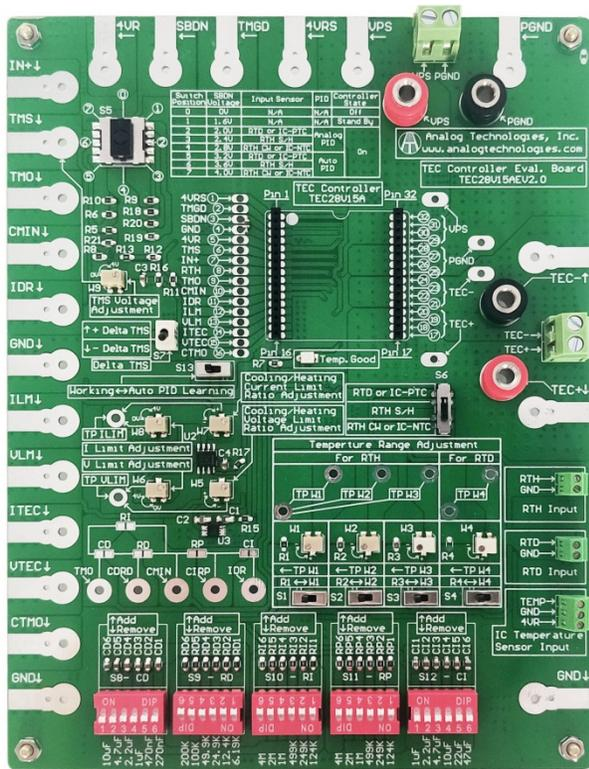
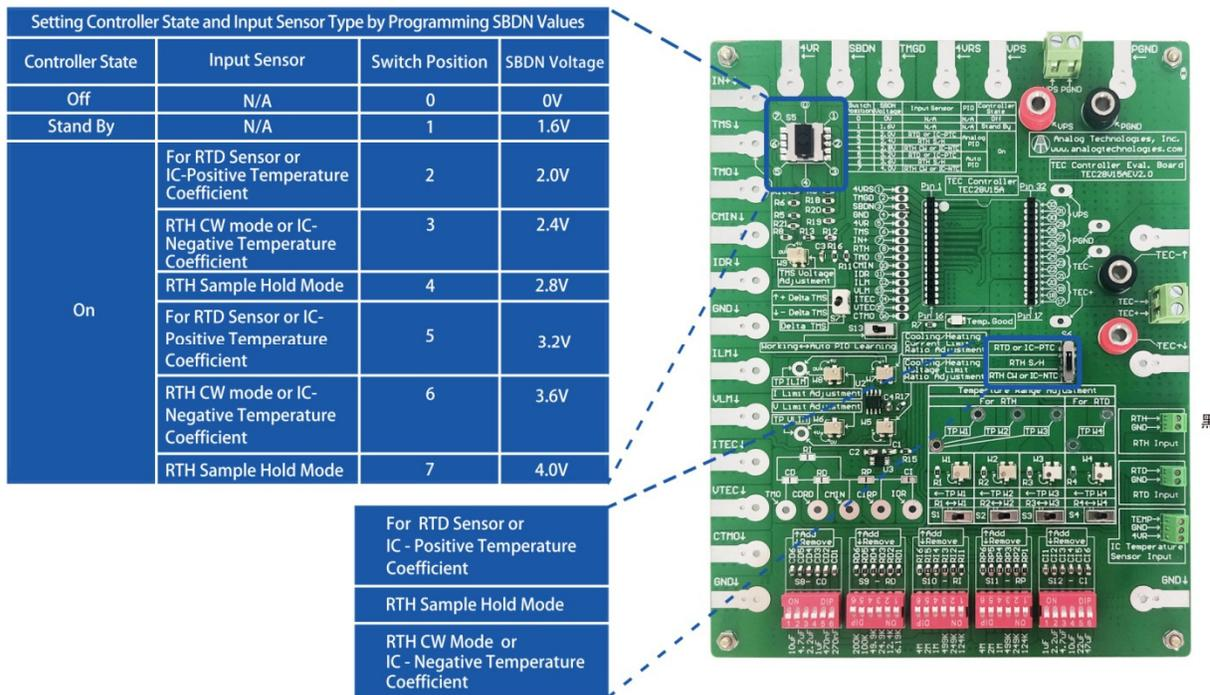
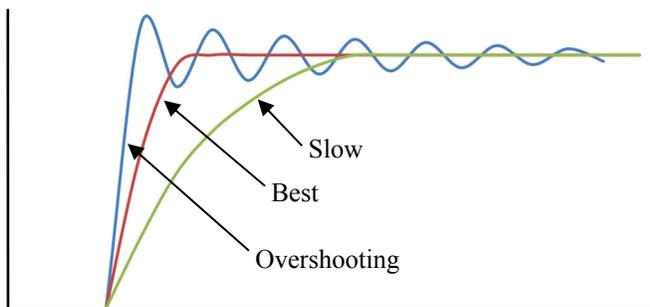
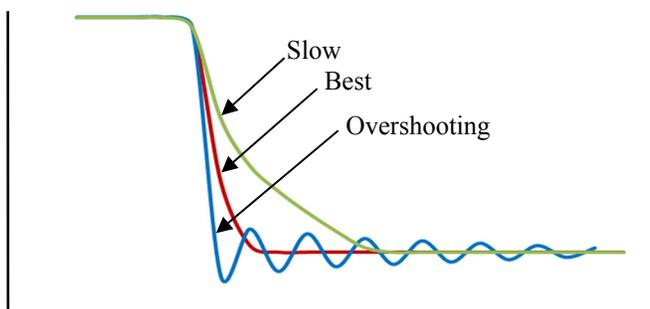

Figure 1. The physical photo of TCE28V15AEV2
Figure 4. Additional Information for Evaluation Board
Figure 11. Rise Waveforms of IDR
Figure 12. Fall Waveforms of IDR
The TEC28V15AEV2 Evaluation Board is consisted of a complete application circuit for driving a TEC controller. It can set the output current, the output current limit, has an LED for indicating the working status of the controller, has numerous connection pads and terminal connectors for making connections with external components and instruments. Its physical photo of TEC28V15AEV2 is shown in Figure 1.
3. In the PCB shown in Figure 1, there is an error in the function selection table of switch S5. See Figure 4 or Table 2 for the correct table.
Hook up the power supply, TEC and thermistor. There are 2 solder pads in the upper right area on the edge for connecting the DC power supply voltages. The connection can be done by clipping or soldering on the pads. Usually the power supply is set from 5V to 28V, a power supply of about having higher voltage than the maximum output voltage. There are also 2 solder pads in the upper right area on the edge for connecting the TEC terminals in the right polarity as indicated onto the board. Connect the thermistor terminals to the board, there is no polarity requirement. On the top of the board, there is the switch bank S5, which is used for adjusting S5 to achieve different functions, in Table 2. At the same time, adjust the position of S6 with S5. There is an IC port on the bottom left of the edge for IC temperature sensor input. The switch of S7 is used to adjust the compensation network of temperature control loop by inputting a square wave disturbing signal in temperature input point, which enables the system to generate corresponding response waveform. At this time, observe the waveform change by oscilloscope, and adjust and optimize the compensation network of the temperature control loop so as to achieve the best waveform at the same time. Response waveform is achieved by measuring IDR with oscilloscope, as shown in Figure 11 and Figure 12. The compensation network components consist of  $R_I$ ,  $R_D$ ,  $R_P$ ,  $C_D$  and  $C_I$ , which will be adjusted by S8, S9, S10, S11 and S12. These connections can be done by clipping or soldering on the pads, see Figure 1. Check the evaluation board connections, making sure that they are all correctly connected.
c. To try other values of capacitors not provided by the evaluation board for the capacitors in the compensation network, turn down the capacitor switches, to the “OUT” position, connect the component to the corresponding soldering pads as marked on the evaluation board, see Figure 1.
d. To shut down the TEC controller, turn the Shutdown Control S5 to “Off”, see Figure 1.